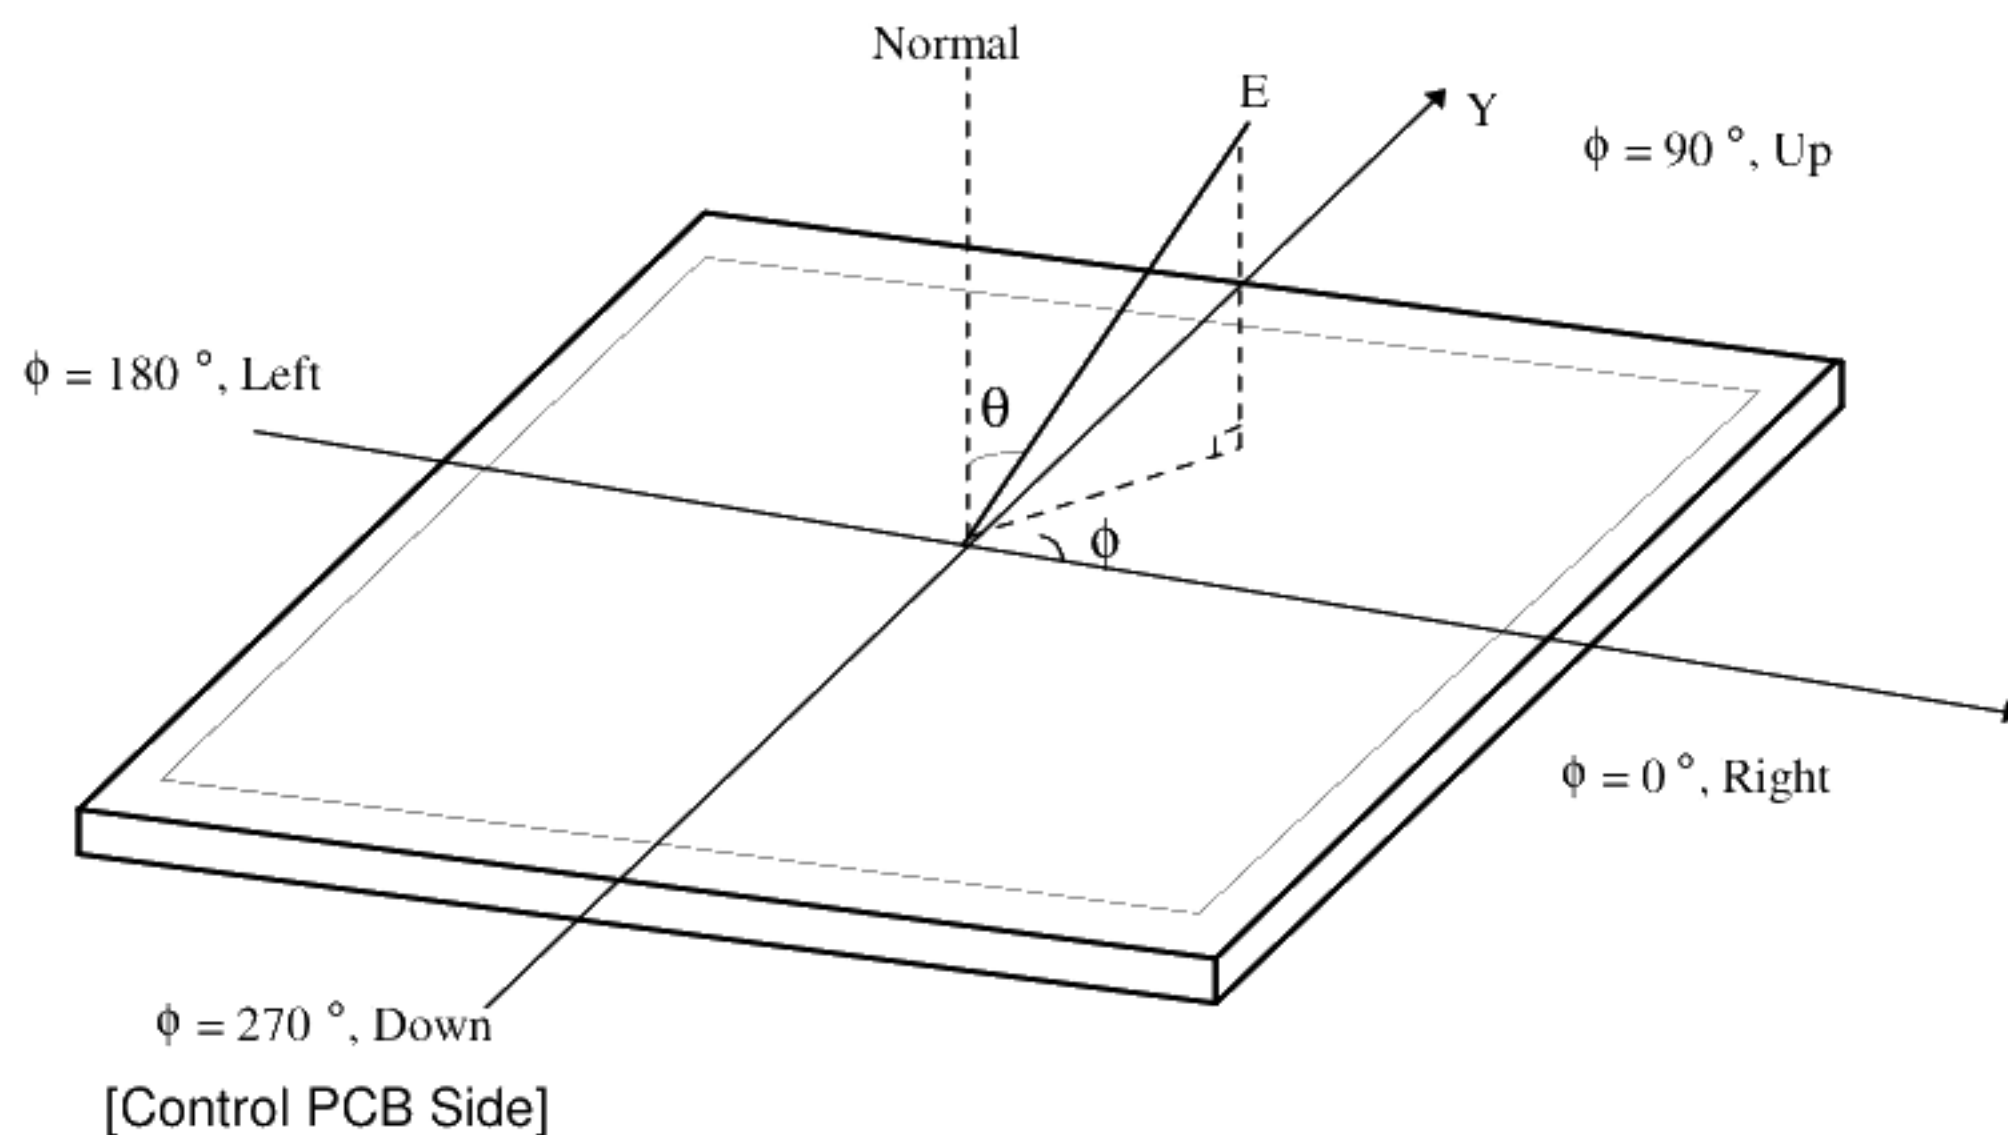

FIG. 6 Viewing Angle
5. Viewing angle is the angle at which the contrast ratio is greater than 10. The angles are determined for the horizontal or x axis and the vertical or y axis with respect to the z axis which is normal to the LCD module surface. For more information, see the FIG. 6.